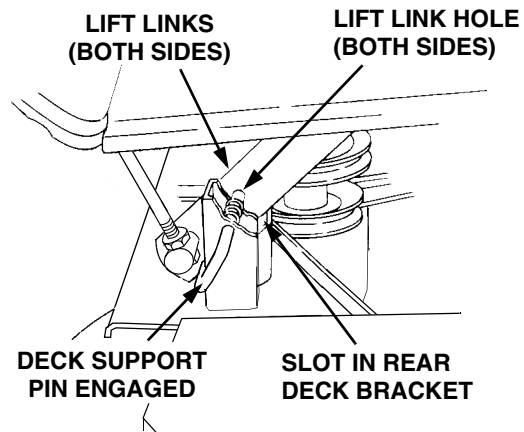

Figure 32
7. Carefully guide the tractor implement lift links (left and right) into the rear deck bracket slots (left and right) as the tractor implement lift handle is lowered to its lowest setting (Refer to Figure 32).
tension will push the pins inward and, if aligned, through the hole in each implement lift link (Refer to Figure 32).